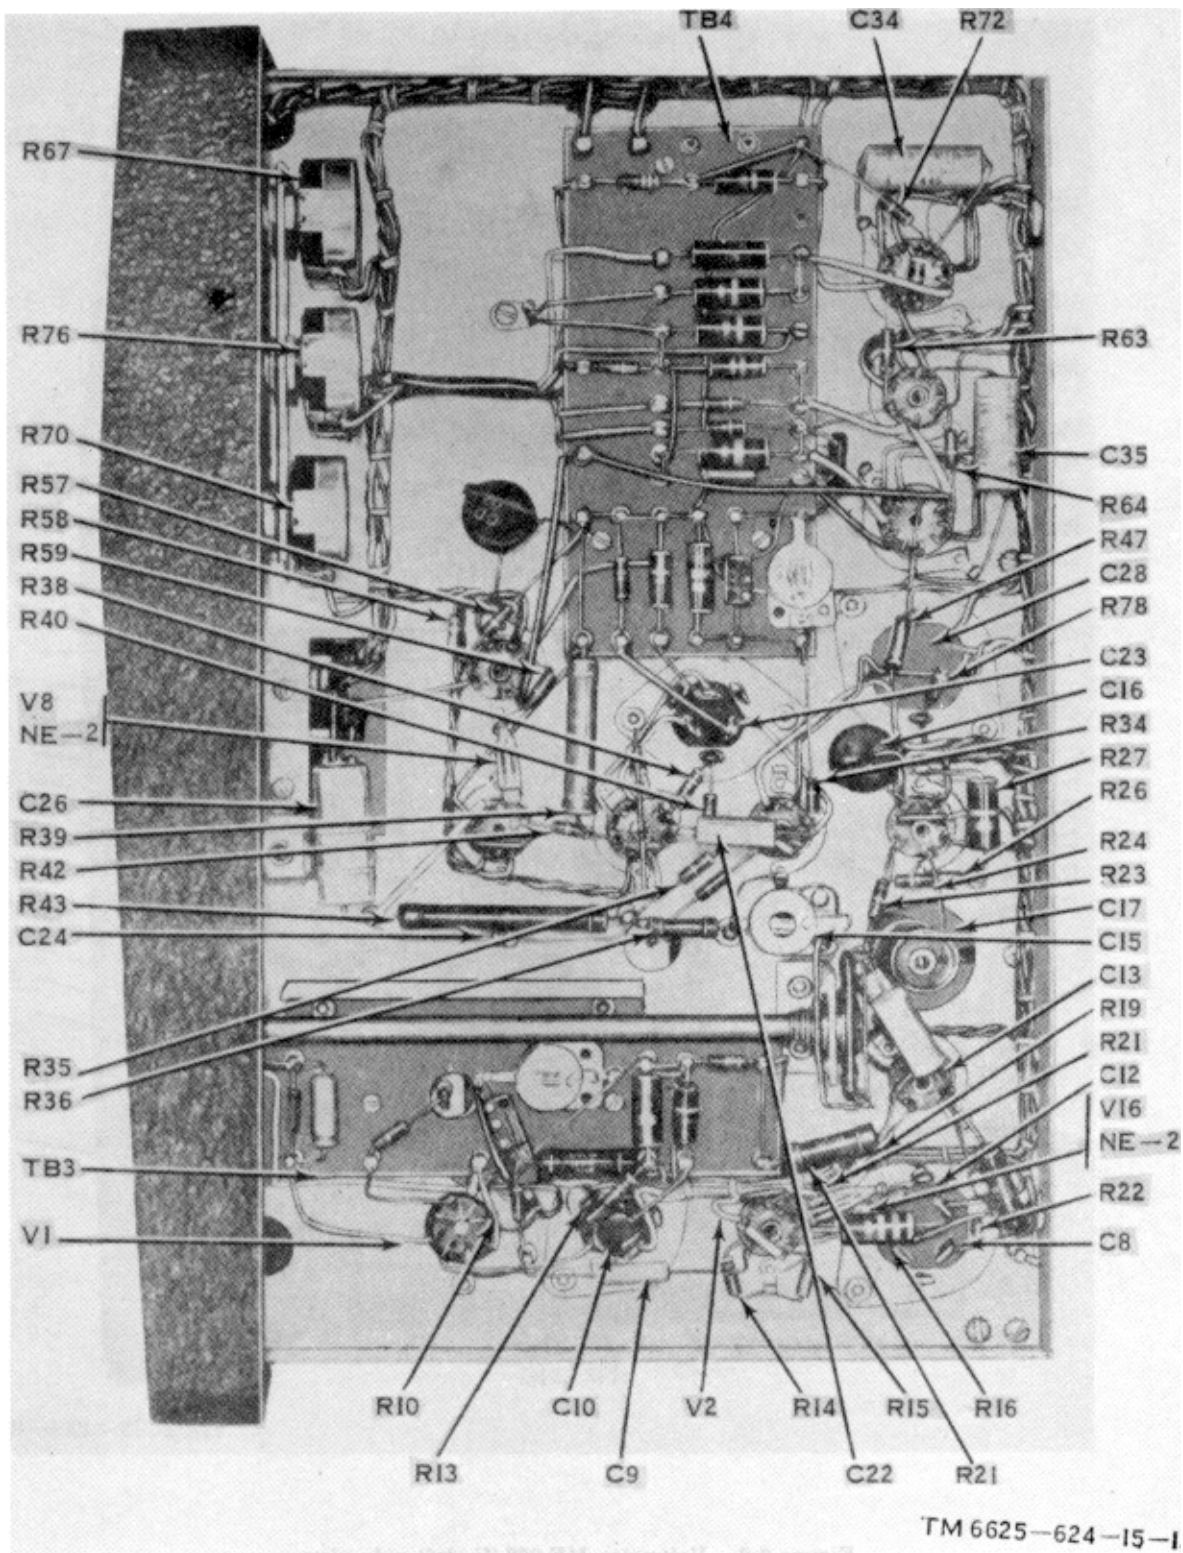

Figure 6.1 Voltmeter ME-262/U, right side view
- (a) Connect Decade Resistor ZM-16/U in parallel with resistor R18 or R41 (fig. 6-1 and 6-4).
- (b) Adjust the decade resistor until the voltage requirement given in (8) above is reached.
c. *Phase Inverter Symmetry Check* (fig. 6-1 and 7-1).
- (1) Set up Oscillator, Audio TS-382/U as described in paragraph 7-2d(2) and (3).
- (2) Set panel controls of the ME-262(*)/U as follows:
- (3) Adjust the TS-382/U to produce a readable and accurate indication on the upper third of the ME-262/U meter scale.
- (4) Change the polarity switch from the POSITIVE to the NEGATIVE position. Note the meter reading.
- (5) Compare the meter readings for both the POSITIVE and NEGATIVE polarity positions. The two readings must not differ by more than 0.5 percent. If the difference is greater than 0.5 percent, proceed to d below.
d. *Phase Inverter Symmetry Adjustment* (fig. 6-1 and 7-1).
- (1) If the POSITIVE response reading is higher than the NEGATIVE, add a 1/2-watt carbon resistor in series with resistor R21.
- (3) Resistor R21 is located between pin 5 of tube V3 and the lower terminal board on the amplifier chassis (fig. 6-1).